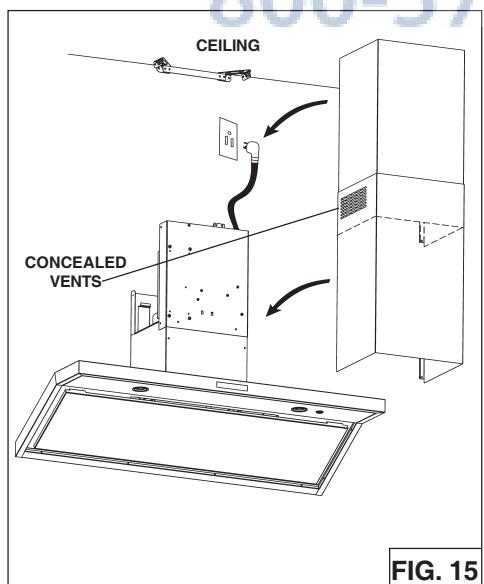

FIG. 15
5. Plug power cord into wall outlet (Fig.15).